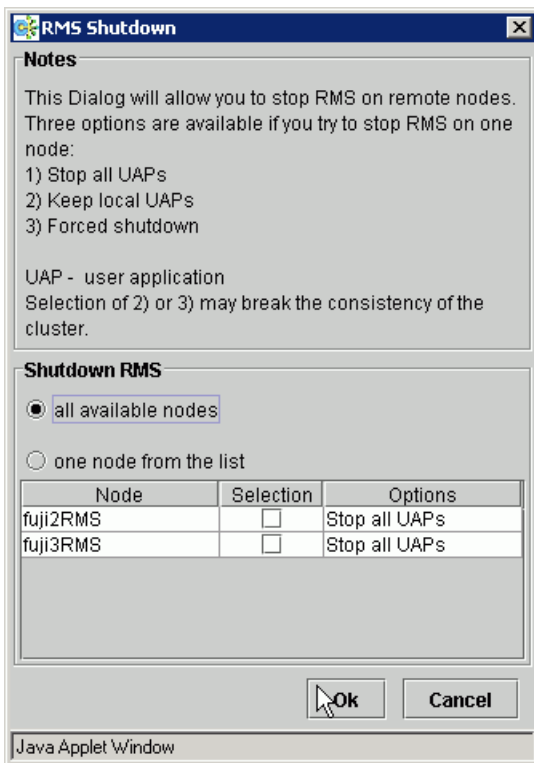

Figure 102: Stopping RMS on all available nodes
2. Select the radio button for *all available nodes* and click *Ok* to shutdown RMS on all nodes (Figure 102).